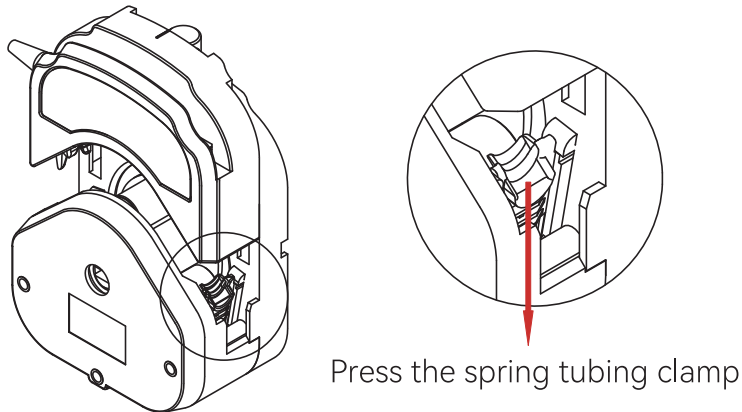

Figure 6 Schematic Diagram of YZ35 pump head Tube clamp operation
- Press down the spring tube clamp on one side (Figure 6) to put the tube in, and then press down the spring tube clamp on the other side to put the tube on the other side.